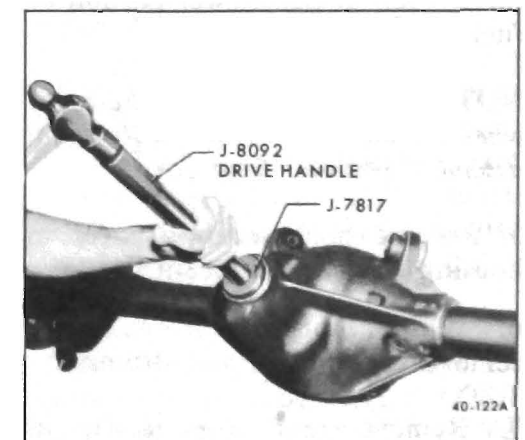

Figure 40-100 - Installing Front Pinion Bearing Outer Race
2. If front pinion bearing is to be replaced, install new outer race using Installer J-7817 with Driver Handle J-8092. See Figure 40-100.